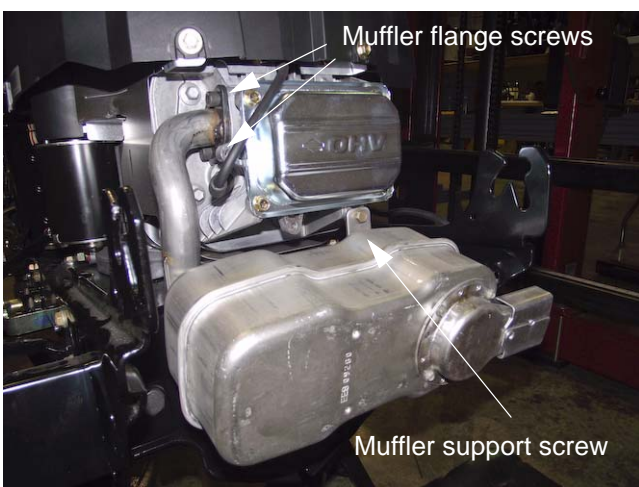

Figure 2.2
1. Remove the two screws that secure the exhaust pipe to the cylinder head. See Figure 2.2.
2. Remove the screw that fastens the muffler support bracket to the cylinder head. See Figure 2.2.